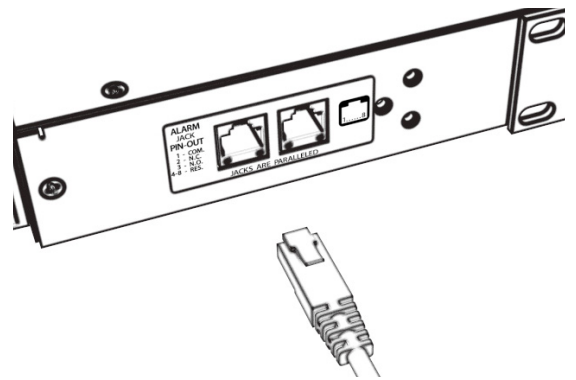

Figure 19. Alarm jacks
Step 1. Plug in a UTP cable with a TIA/EIA T568B termination into the alarm jack (see Figure 19). Refer to Table 5 for termination pinout information.